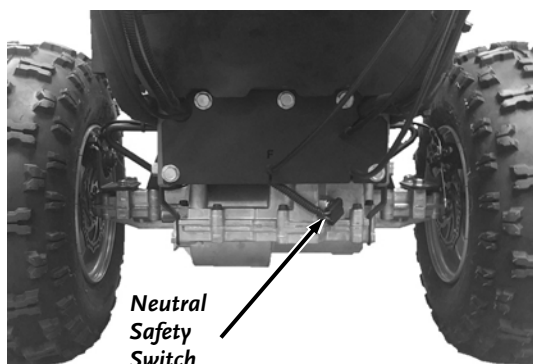

Figure 17
2. Check that the Neutral Safety Switch at the rear of the Transaxle is connected in case it has loosened during shipping (**Figure 17**).